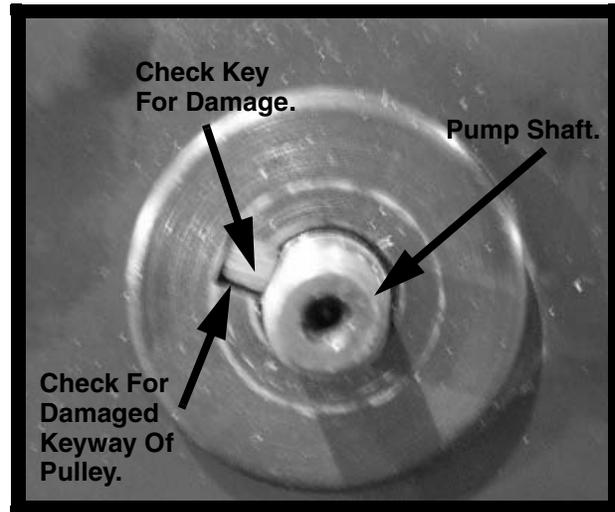

FIGURE 1
6. Remove pulley. Inspect the key & keyway for any distortion from a loose pulley, Figure 1. If damage is evident replace key (**00020628**). Inspect the keyway in pulley for damage, install pulley, replace if needed.